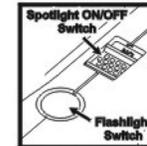

Fig.13
- Press Flashlight "ON/OFF" button to operate "ON - FLASH - OFF". (FIG.13)
- Switch ON the spotlight. (FIG.13)